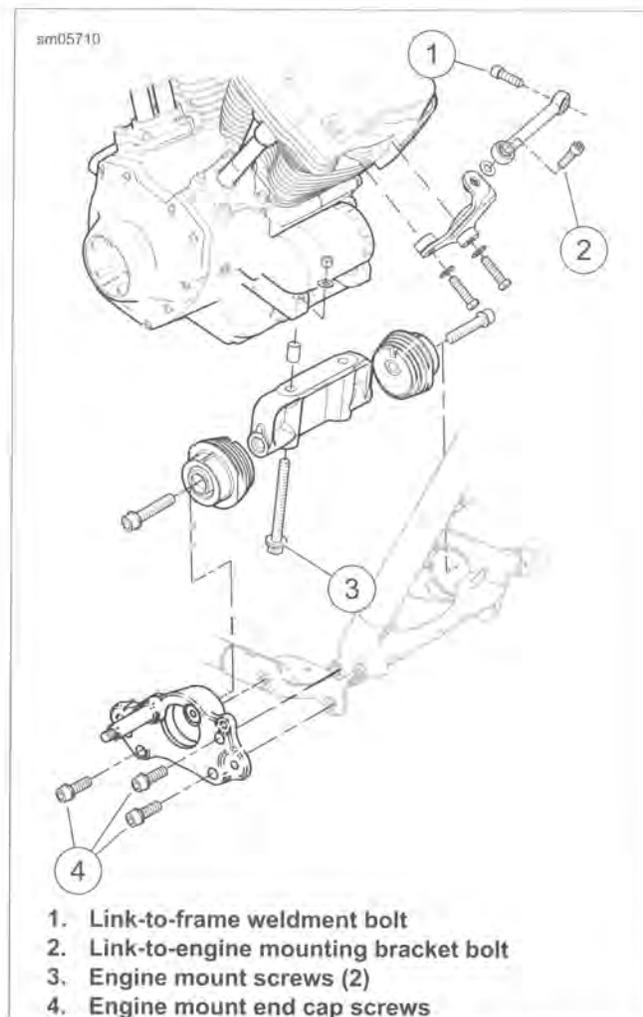

Figure 1-54. Front Mount and Stabilizer
1. See Figure 1-54. Check two engine to front engine mounting bracket screws (3). The screws must not rotate with torque wrench set to 36-40 ft-lbs (48.8-54.2 Nm).
2. Check right front engine mount end cap screws (4). The screws must not rotate with torque wrench set to 42-48 ft-lbs (56.9-65.0 Nm).